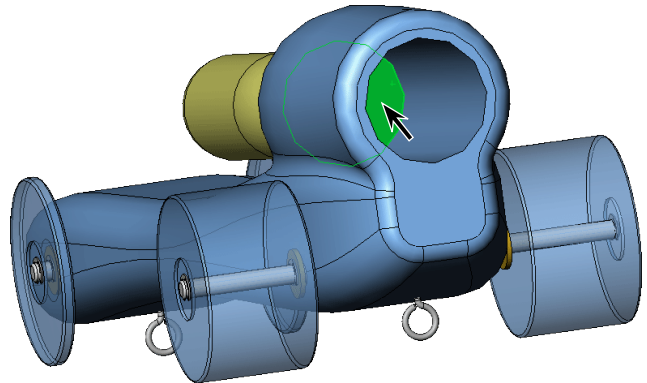

Fig. 25
Step 4. Click **bottom face of the cartridge hole**, **Fig. 25**.